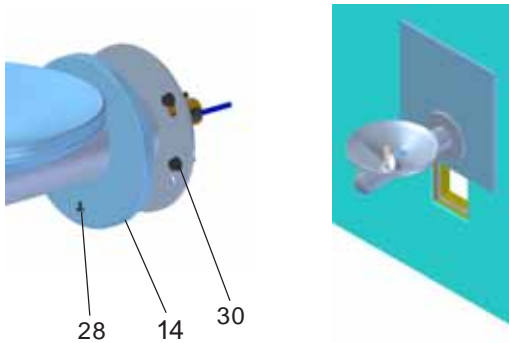
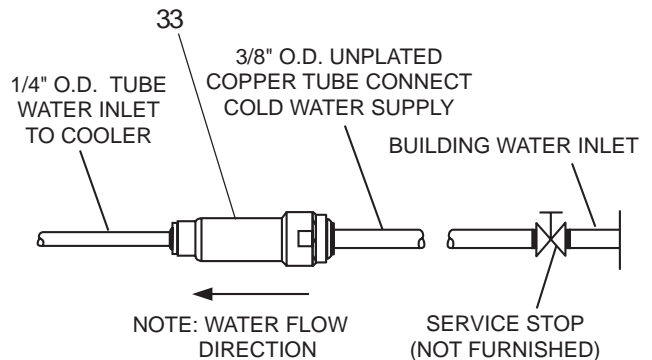

Figure 10 - Fountain Installation
Figure 17 – Water Supply Connections
5. **Make water** supply connections from service stop to the 3/8" O.D. unplated copper tube coming out of the strainer. Turn on water supply and check for leaks (See Figure 17). Newly installed water supply line should be insulated after leak check is completed.
- Install fountain.** Remove screw (Item 28) from cover plate and slide cover plate (Item 14) toward basin. (See Figure 10)
**Ftn. w/MPW Mounting Plate:** Mount the fountain to the back panel and wall using (4) 5/16" x 6" long threaded rods, washers, and nuts (provided). Tighten securely.
**Ftn. w/Wall Plate Assy.:** Mount the fountain to the back panel and wall plate assy. with (4) 5/16" x 1" (25mm) long screws (Item 30 - provided). Tighten securely.
- Make water** supply connections from service stop to the 3/8" O.D. unplated copper tube coming out of the strainer. Turn on water supply and check for leaks (See Figure 17). Newly installed water supply line should be insulated after leak check is completed.